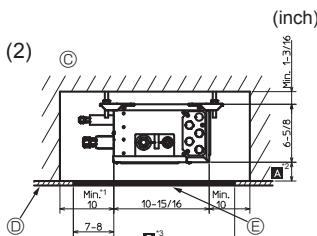
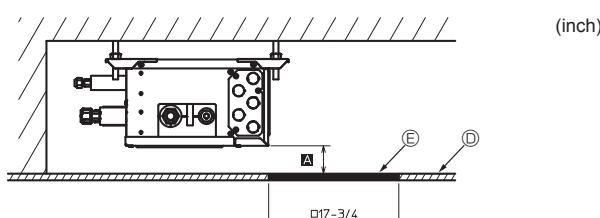

Fig. 4-7
Fig. 4-8
(2) Side View (Fig. 4-7, Fig. 4-8)
In the case of “ □ 17-3/4 inch (450 mm)”, prepare a maintenance hole at a PCB side (as it is shown in Fig. 4-8), and “Min. 11-13/16 inch (300 mm)” is needed as distance Ⓑ.